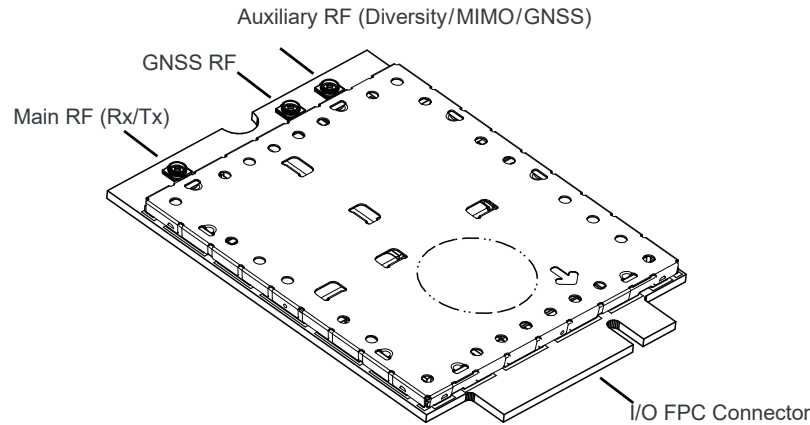

Figure 3-1: Module Connectors
- Connect to system ground using the mounting hole shown in Figure 3-1 on page 37.